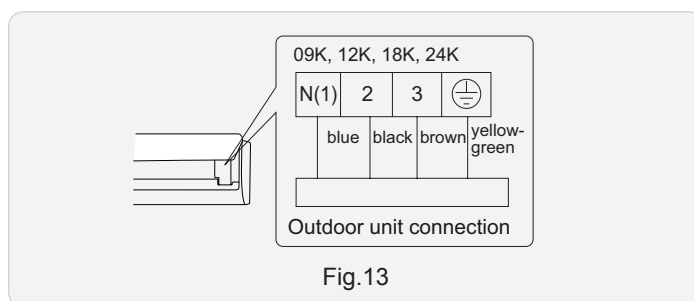

Fig.13
(3) Remove the wire clip; connect the power connection wiresignal control wire (only for cooling and heating unit) to the wiring terminal according to the color; tighten the screw and then fix the power connection wire with wire clip. (As show in Fig.13)
(4) Put wiring cover back and then tighten the screw.
(5) Close the panel.